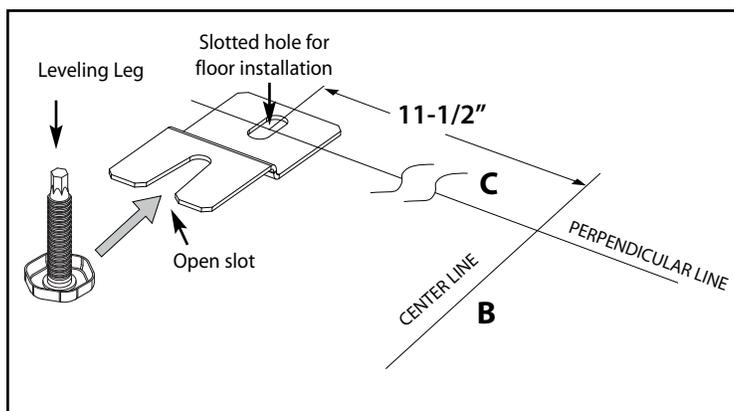

Fig. 07
5. Fasten the bracket to the floor thru the slotted hole (see Fig. 07) using the appropriate fasteners for the type of floor.
6. Position the unit so that the leveling leg engages into the anti-tip bracket (Fig. 07).